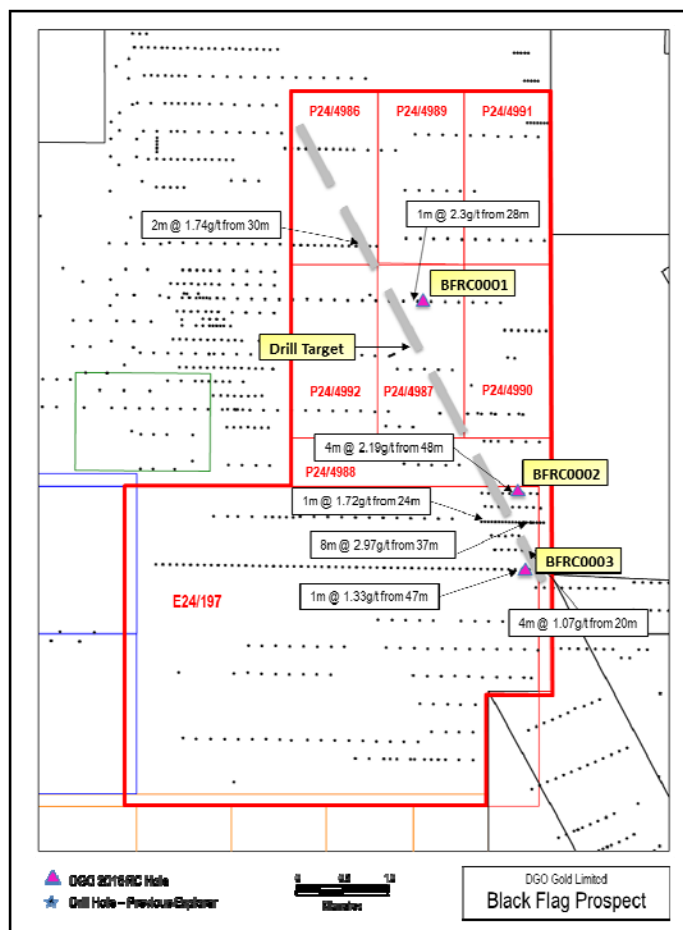

Figure 7: Black Flag Tenement Plan and Drill Hole Locations
Reverse circulation (RC) drilling was carried out in December 2016 by DGO on the Company’s Black Flag tenements located approximately 35 kilometres northwest of Kalgoorlie. Three widely spaced drill holes (BFRC0001-BFRC0003) were completed for a total of 438 metres of drilling (refer Figure 7).